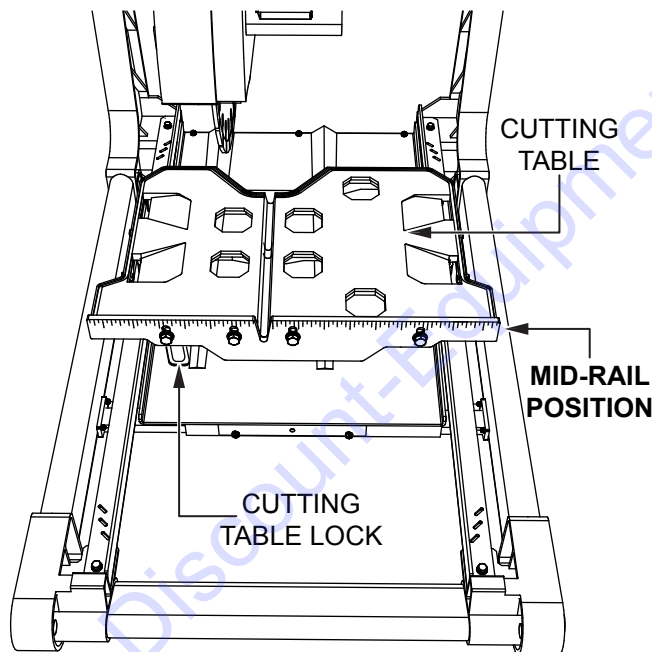

Figure 17. Cutting Table Lock (Mid-Rail Position)
1. Use the cutting table lock to secure the cutting table in the mid-rail position (Figure 17).